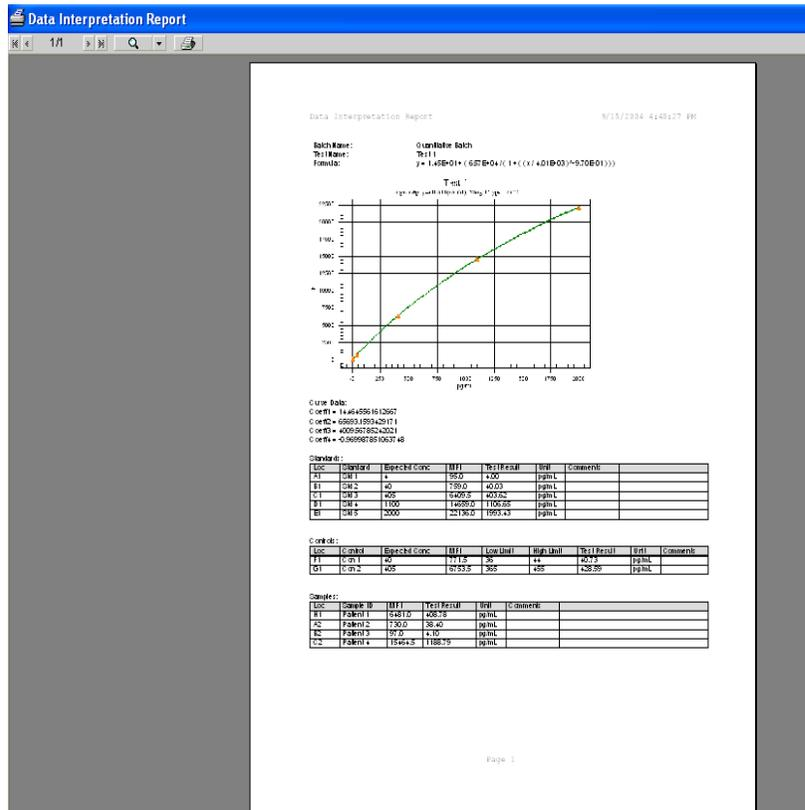

Figure 61 Data Interpretation Report (Print Preview)
3. In the **Analysis** window, click **Print Report**. The Data Interpretation Report displays a print preview. See Figure 61.